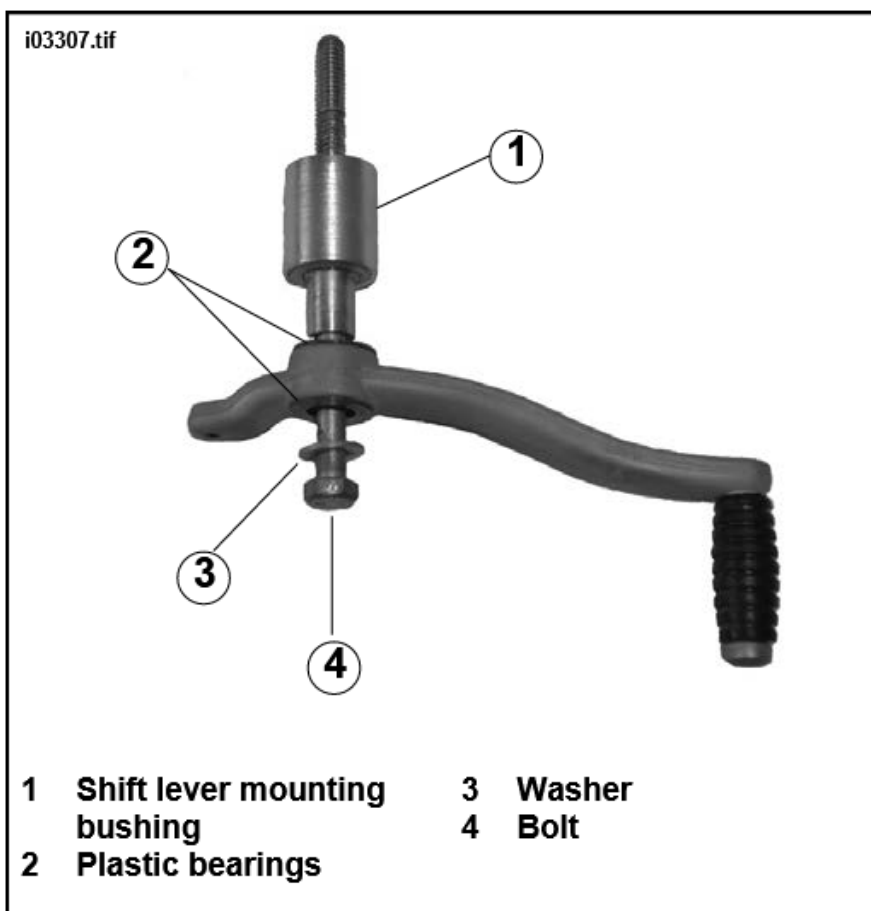

Figure 3. Shift Lever (Assembled)
- See Figure 3. Obtain shift lever (part number N0621.01A1) and install plastic bearings (part number N0513.T). Install washer saved from Step 6 to 4-3/4 inch hex bolt (part number AA0538.1CZ). Install bolt with washer through shift lever and shift lever mounting bushing (part number N0614.01A3) as shown.